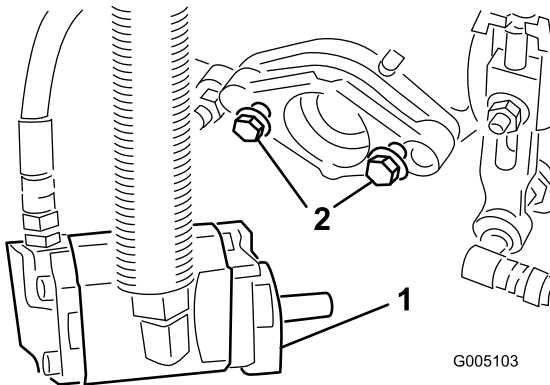

Figure 12
7. Assemble the mounting bolts for the reel drive motor to each cutting unit. Leave approximately 1/2 inch (13 mm) of threads exposed on each mounting bolt (Figure 12).
11. **Tighten the mounting bolts** (Figure 12).